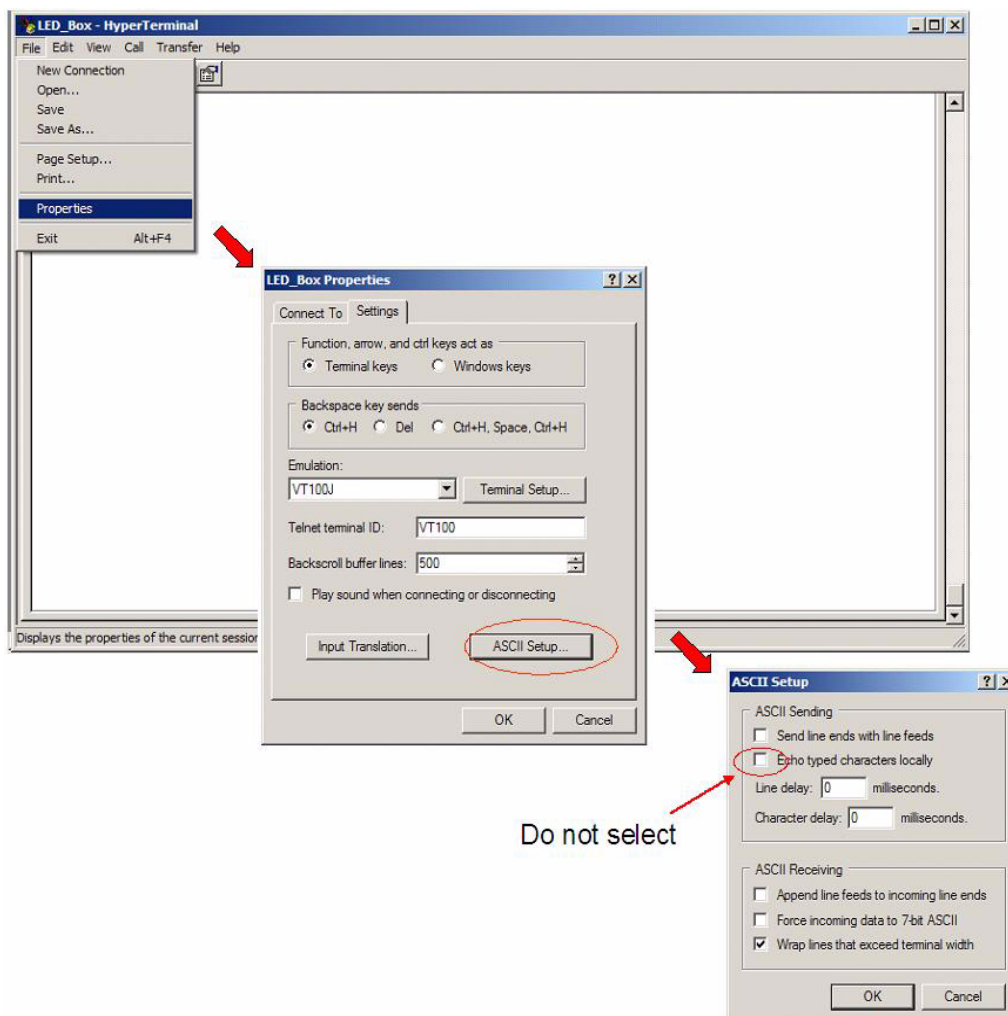

Figure 4-1. Echo Typed Characters Setting
5. Make sure Echo typed characters locally is NOT selected under the ASCII Setup pop-up menu, see Figure 4-1.